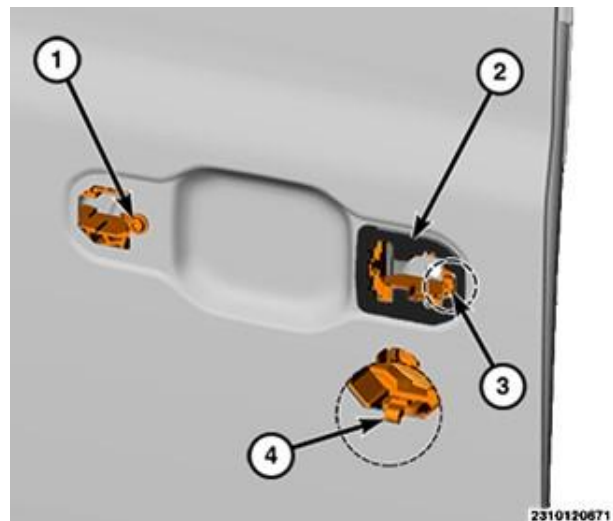

Figure 14 – Exterior Door Handle
- (1) - Tool
- (2) - Plate Screw
- (3) - Lock Cylinder
24. Loosen the exterior handle support screw (1) (Figure 14). **Do not remove the screw.**
25. Release the door handle hook (3) and lock cylinder hook (4) from the outer door panel (Figure 14).
- (1) - Exterior Handle Support Screw
- (2) - Handle Gasket
- (3) - Door Handle Hook
- (4) - Lock Cylinder Hook
NOTE: It is not necessary to remove the door handle gasket (3) (Figure 14).
47. Slide the handle bracket rearward to engage the exterior handle support screw (1) into the slot of the outer panel and engage the bracket hook (3) over the edge of the outer panel (Figure 14).
48. Engage the 2nd hook (4) onto the outer panel at the key cylinder hole (Figure 14).
49. While pushing the bracket hook rearward, tighten the exterior handle support screw to 19 N·m (17 ft. lbs.) (Figure 14).
50. Install the handle gasket if it was removed (Figure 14).